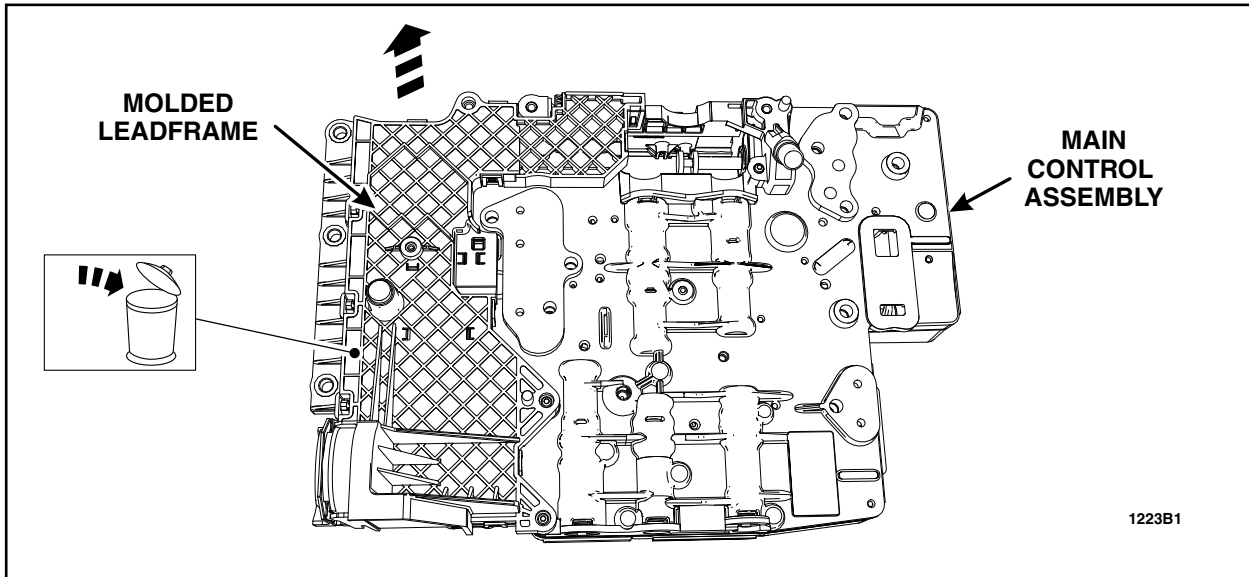

FIGURE 2
5. Carefully separate the molded leadframe from the main control assembly. See Figure 2.